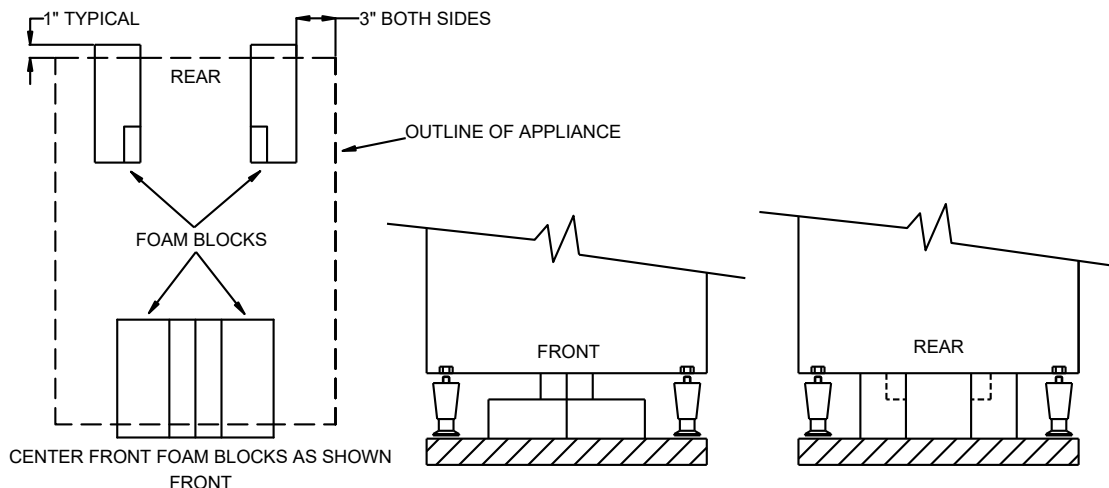

Figure 3-1
- b. Remove the four foam packing blocks from the upper packing assembly, and position them on a flat surface (such as the floor) in the pattern shown in Figure 3-1.
- c. Center the SteamChef™ on the blocks as shown in Figure 3-1.